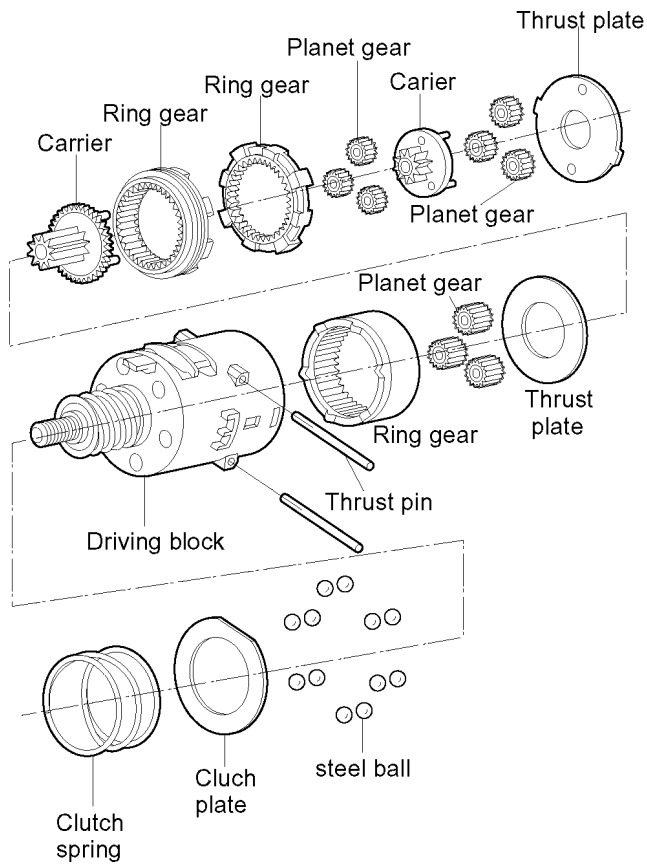

Fig.6
2. The internal parts of gear box block can be removed one after another. (See Fig.6)
2. Assemble the other parts in reverse order as shown in the Fig.6.